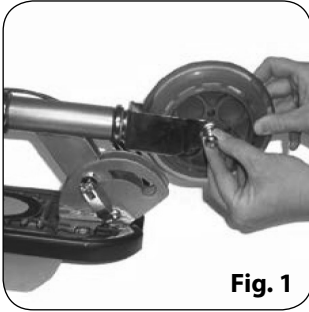

Fig. 1
2. Locate the enclosed front wheel and attach it to the front fork of the scooter. See Fig. 1.